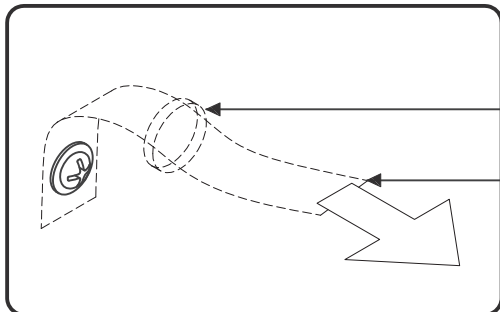

Figure 6
Move unit back into place and insert Tipover Restraint into unit through hole in Back Panel (K). (See Figure 6)